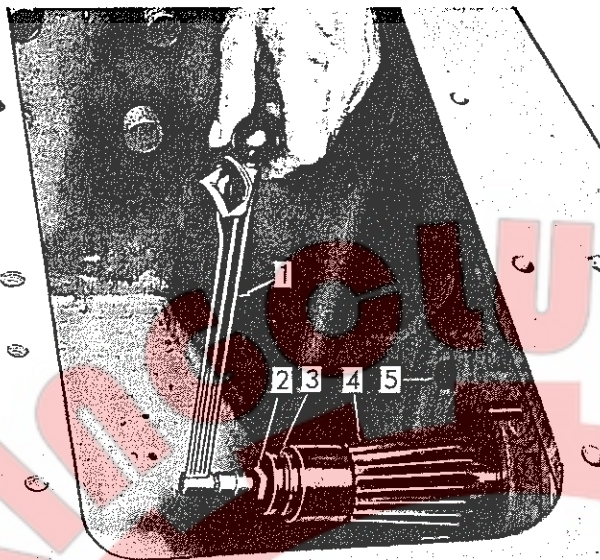

Fig. 17 Checking Pre-Load of Bevel Gear Shaft Bearings (T-25732)
- b. Refer to Fig. 17, turn bevel gear shaft with a pounds inch indicating torque wrench to determine pre-load on bearings; specified pre-load is 10 to 20 lbs. in. (.003"-.004" tight).